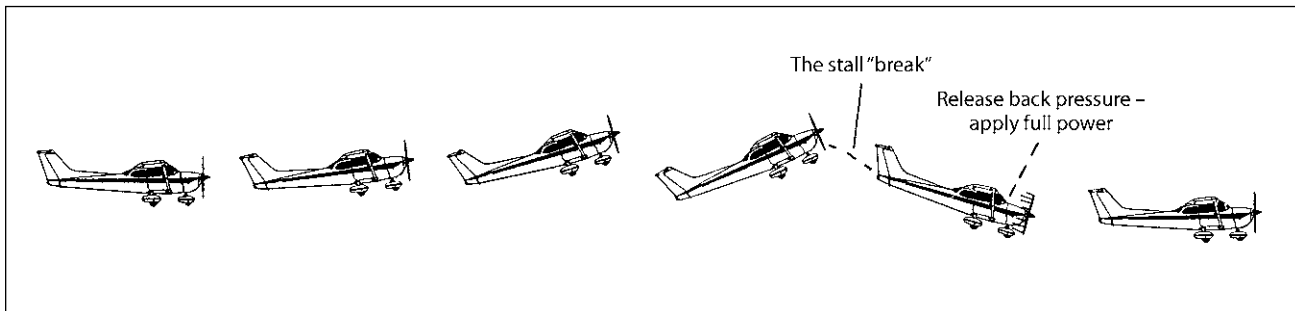

Figure 12-9. Power-on normal stall.
4. When the stall break occurs, lower the nose and open the throttle the rest of the way. Then level the wings with coordinated aileron and rudder if you fell asleep in item 3 (Figure 12-9).